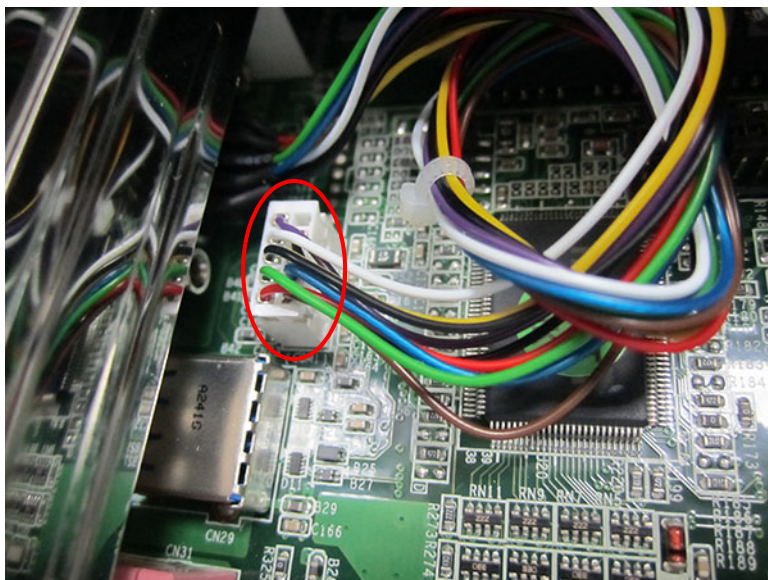

Figure 3.7
b. Connect the cable to COM port. (See Fig 3.7)